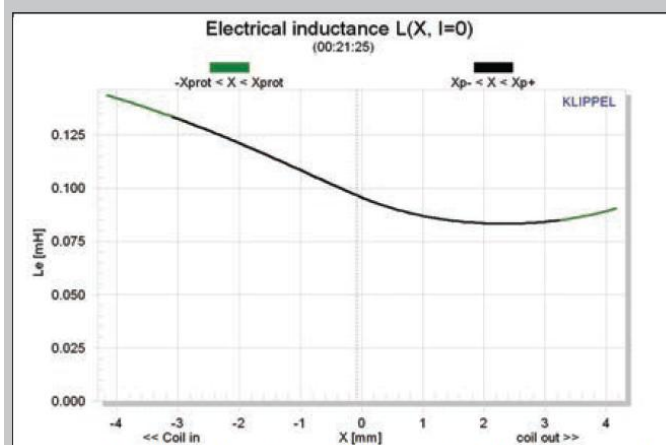

Figure 26: Klippel analyzer  $L(X)$  curve for the Scan-Speak 5F/8422T01
**Figure 26** shows the 5F/8822T01's inductance curve  $Le(X)$ . Inductance will typically increase in the rear direction from the zero rest position as the voice coil covers more pole area. However, the 5F/8822T01's inductance variation is only 0.04 mH from the in and out  $X_{MAX}$  positions, which is very good.